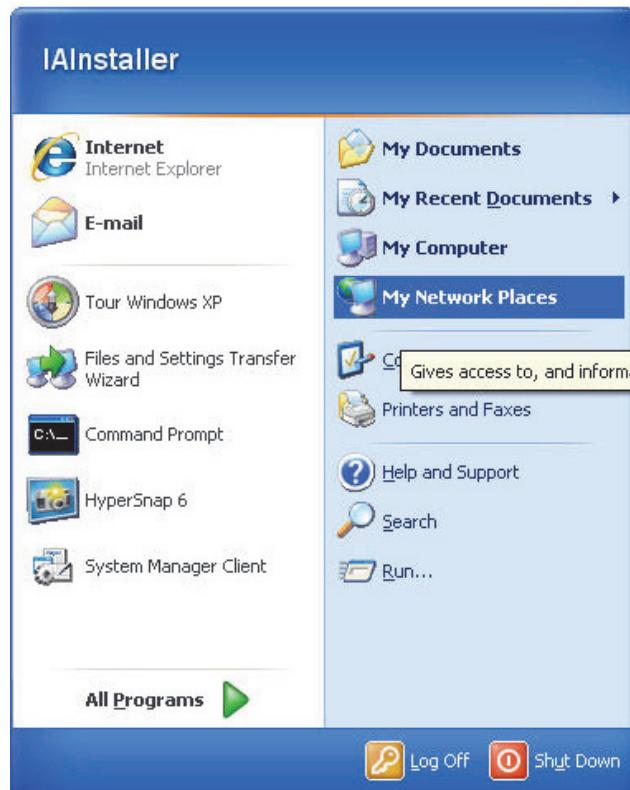

Figure 1-13. Accessing Station with Standard Foxboro Evo Control Core Services Software
2. A prompt appears for the user credentials as shown in Figure 1-13. Enter the user name and password of the station running the Control Core Services software without security enhancements. Then click **OK**.